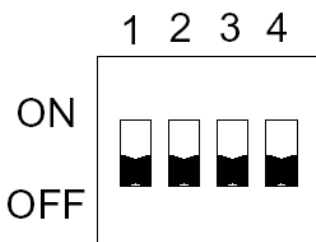

Fig.5 Dip Switch for Channel Selection
4. Channel selection DIP SW (as shown in Fig 5)